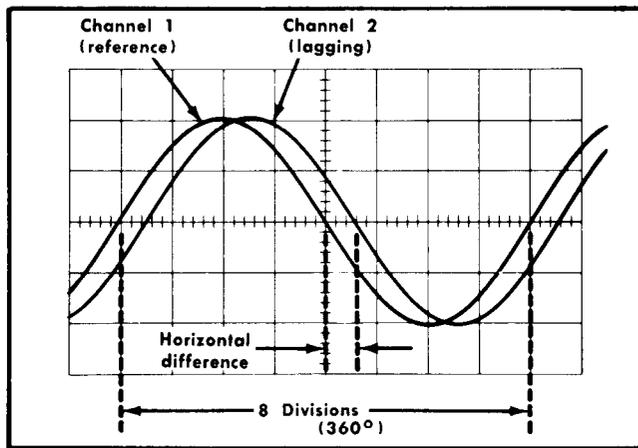
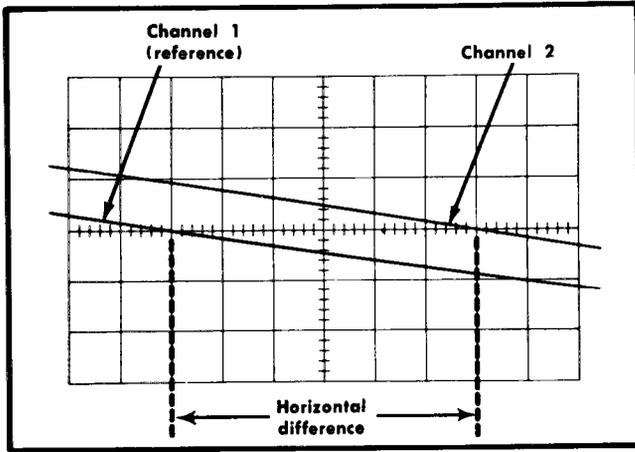

Fig. 2-24. Measuring phase difference.
Fig. 2-25. High resolution phase-difference measurement with increased sweep rate.
10. Turn the A VARIABLE control until one cycle of the reference signal (Channel 1) occupies exactly eight divisions horizontally (see Fig. 2-24). Each division of the graticule represents 45° of the cycle [360° ÷ 8 divisions = 45°/division]. The sweep rate can be stated in terms of degrees as 45°/division.
Example. Assume a horizontal difference of 0.6 divisions with a sweep rate of 45°/division as shown in Fig. 2-24.
Example. If the sweep rate were increased 10 times with the magnifier, the magnified sweep rate would be 45°/division ÷ 10 = 4.5°/division. Fig. 2-25 shows the same signals as used in Fig. 2-24 but with the MAG switch set to X10. With a horizontal difference of six divisions, the phase difference is: